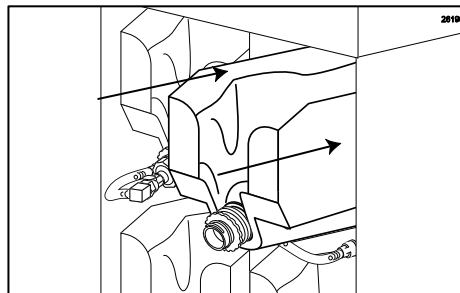

Figure 46
- Make sure the syrup bag is settled neatly into the tray, and then install the loaded tray into the cabinet. (See Figure 46.)